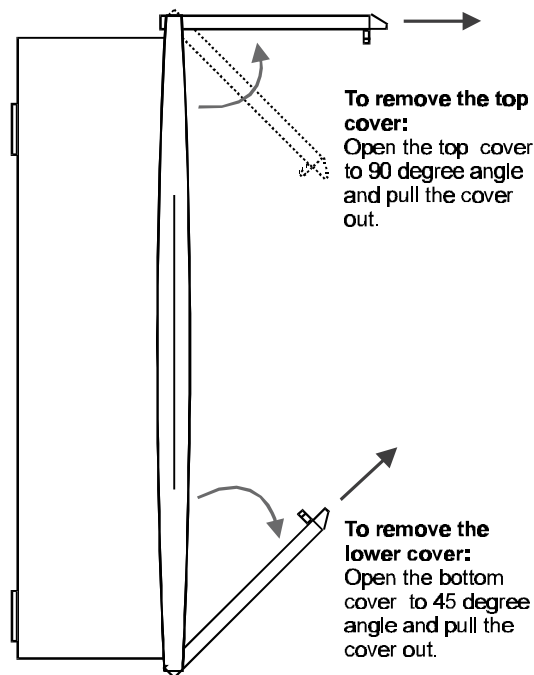

Figure 10 How to remove the outer covers
- b) Remove the top and bottom inner plates, see Figure 10.